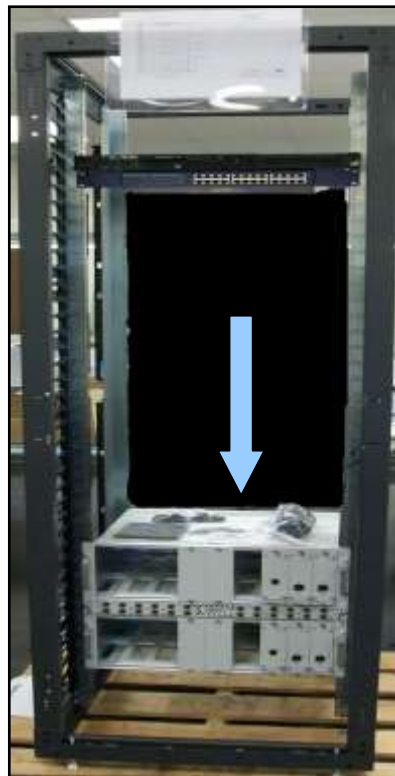

Figure 4-19. Host Unit Cabinet
- Optional Cabinet with Host Unit installed as shown in **Figure 4-19**.